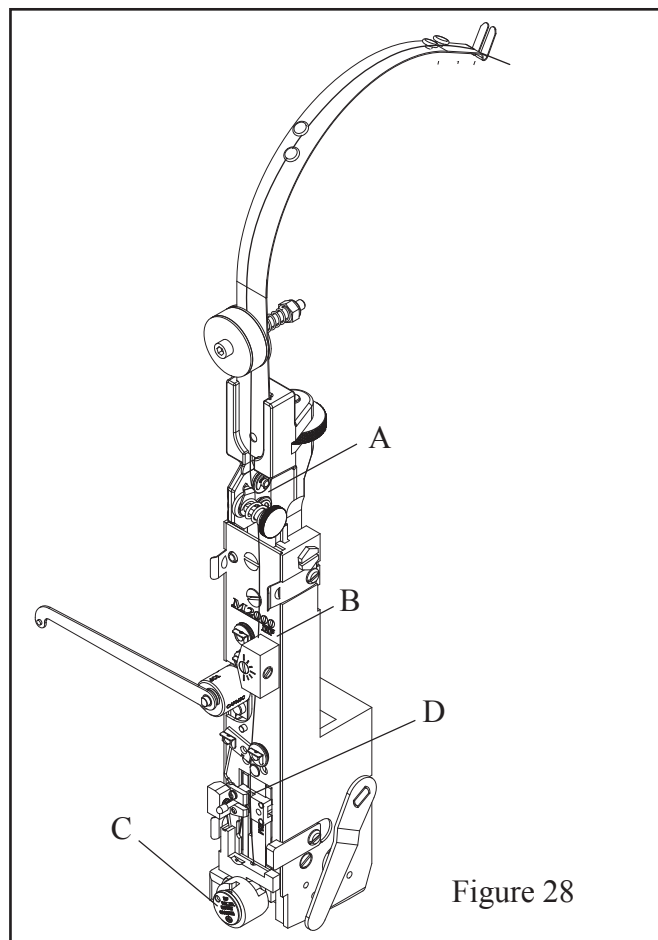

Figure 28
M. Wire Straighteners: (Figure 28)